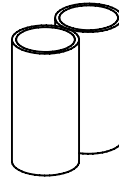
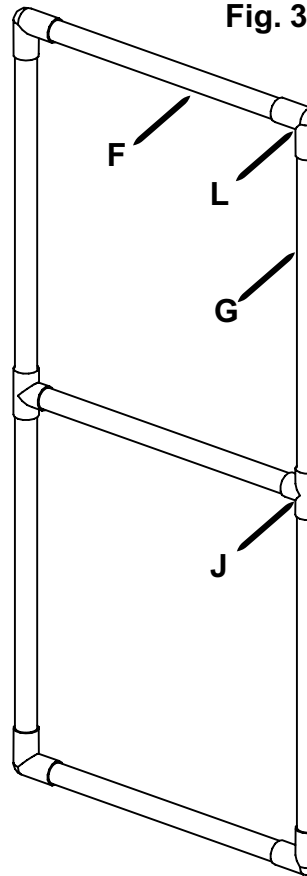

Fig. 1
Fig. 3
1. Glue 2 Pieces of 1-1/4" PVC x 4" (H) Together To Create Hinges as Shown. Make 4 Hinges.
2. Glue 1 Piece 1-1/4" x 4" (H) to 1 SnapClamp (I) To Create Latches as Shown. Make 2 Latches
3. Slide a Slip-T (J) onto each Door Frame Side (E) Locate 4" Down from Top.
4. Slide Hinges and Latch onto Door Frame Sides Positioned as Shown in Fig. 3
5. Connect the Two Door Frames with 27" Pipe (F) Assemble into Slip-T's on Arch and Base on Front of GreenHouse.
6. Slide Door Side Pipe (G) Through Hinges on Door Frame and Then Assemble Door as Shown in Fig 1. with Middle Support Pipe (F) Located in the Center of the Door. Adjust Latch as Needed.